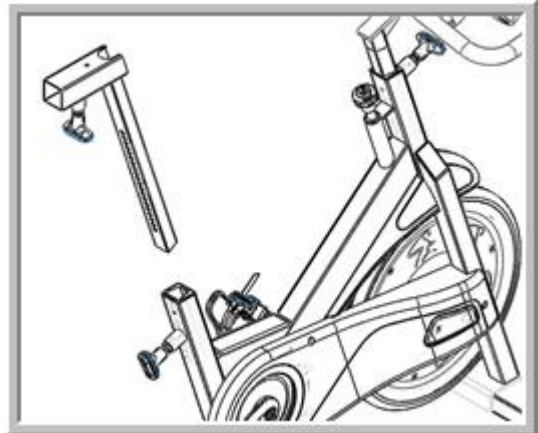

Fig. 8
8. Installing the Seat Post (Fig. 8)